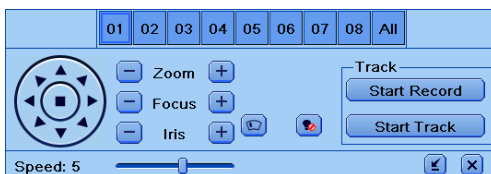

Fig 4-40 Track Setting
- ① In the Advanced interface, click track “Setting” button to see a dialog box as Fig 4-40.
- ② Control the dome by rotating up, up left, down, right down, left, left down, right and up right and adjust the rotate speed and the value of zoom, focus and iris of the dome.
- ③ Click Start Record button to record the move track of PTZ. Click this button again to stop record.
- ④ Click Start track button to play recorded track. Click this button again to stop playing.
- ⑤ Click  icon to exit the current interface.
- ⑥ After the completion of settings, please remember to click “Apply” to save the setting.